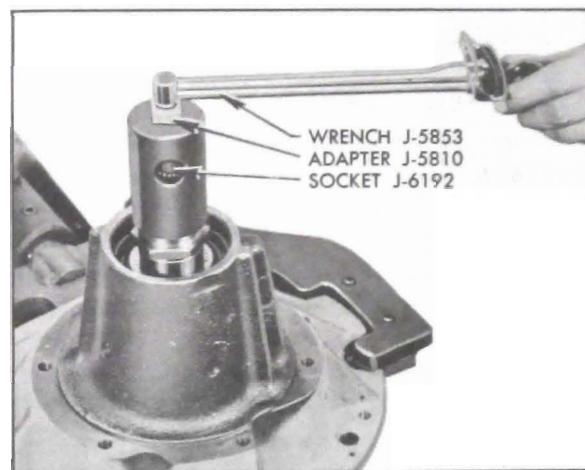

Figure 6-24—Checking Pinion Bearing Pre-Load
5. Rotate pinion three or four times to seat bearings. Turn pinion slowly with an inch pound torque wrench; bearing pre-load should be 10 to 30 inch pounds. See Figure 6-24. If pre-load is under 10 inch pounds, replace spacer with a thinner one; if pre-load is over 30 inch pounds, remove pinion nut and front bearing and replace pre-load spacer with a thicker one. These spacers are furnished to be used in pairs so that possible thicknesses range from .400" to .470" by thousandths. Service spacers are marked with their thickness in thousandths.